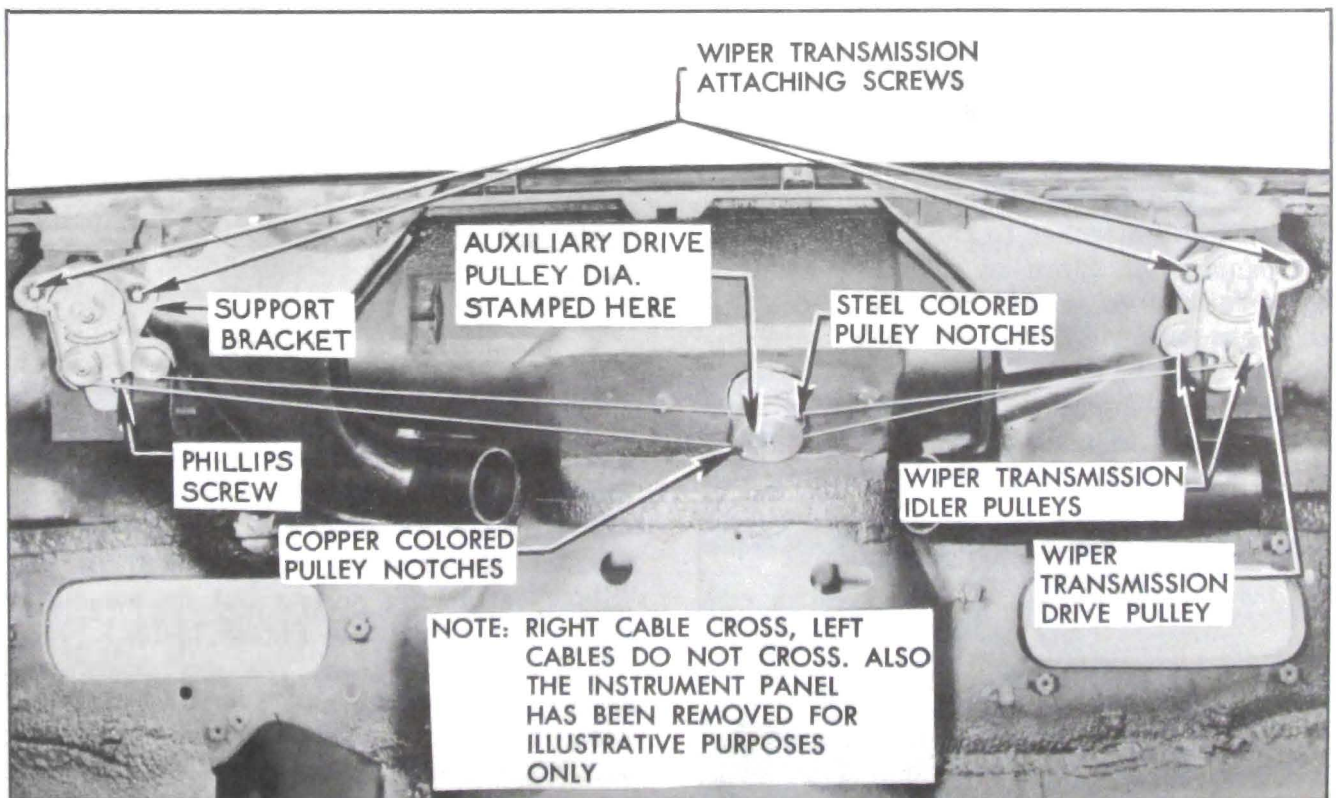

Figure 13-13—Wiper Transmission and Auxiliary Drive Installation
3. Observe and note wiper transmission cable to auxiliary drive attachment to assure proper installation, then disconnect cables from pulleys. See Figure 13-13.
IMPORTANT: *The "right" wiper transmission cables attach to the "outer" two (of four) drive pulleys and the "left" wiper transmission cables attach to the "inner" two (of four) drive pulleys as shown. Also, copper colored cable ends must be installed to copper colored pulley notches and steel colored cable ends to steel colored pulley notches. The right transmission cables cross and the left transmission cables do not cross. See Figure 13-13.*
4. Observe and note attachment of transmission cables at auxiliary drive pulleys to assure proper installation, then disconnect cables from auxiliary drive pulleys. See Figure 13-13.
7. Remove transmission attaching screws. Break seal between transmission gasket and body and remove transmission. See Figure 13-13.
2. Inside of body, position gasket on transmission and position transmission in body. "Start" attaching screws but do not tighten them at this time. See Figure 13-13.
NOTE: *The right transmission cables cross and the left transmission cables do not cross. See Figure 13-13.*